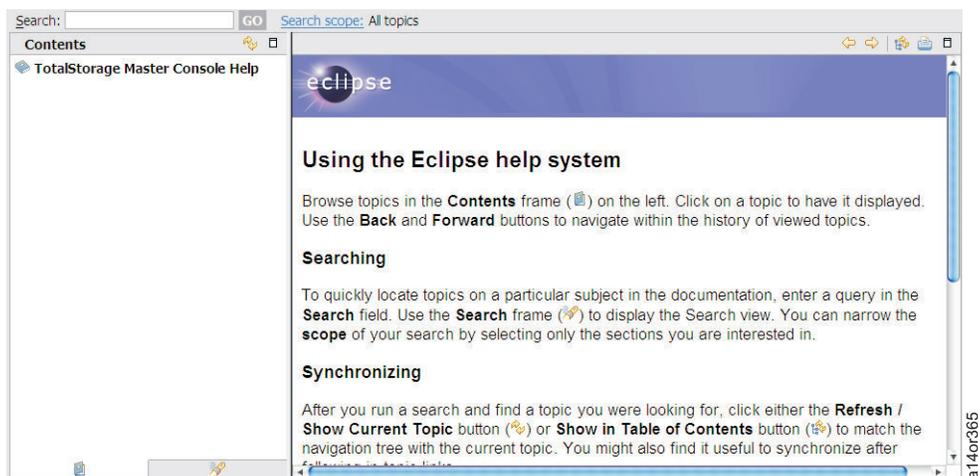

Figure 255. Launching InfoCenter Window. Though not shown here, your selection will appear below “TotalStorage Master Console Help.”
2. From the Main Menu, select **Browser Functions > Launch InfoCenter**. A browser window appears, as seen in Figure 255. This can take as long as 15 seconds to open.